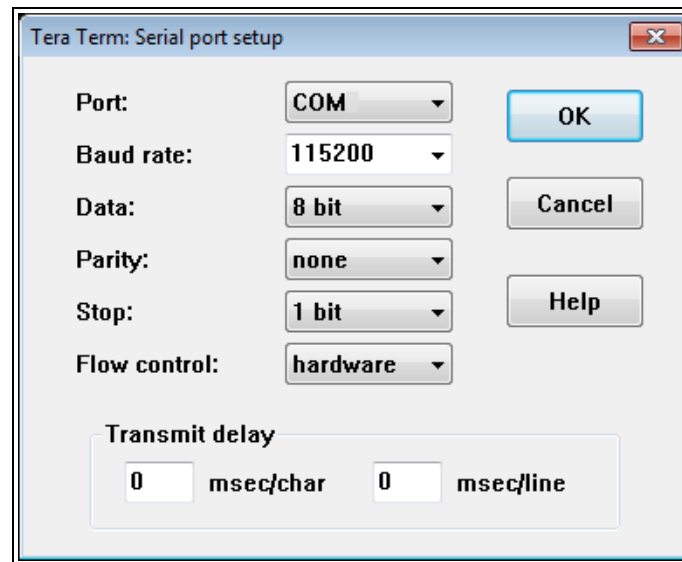

Figure 29: Tera Term: Serial Port Setup dialog box with Default Z9-C or Z9-T Settings
7. **Important:** Verify, and change if required, the Tera Term serial port settings (except the **Port** setting) of the connected Z9-C or Z9-T so the settings are the same as the defaults shown in Figure 29.